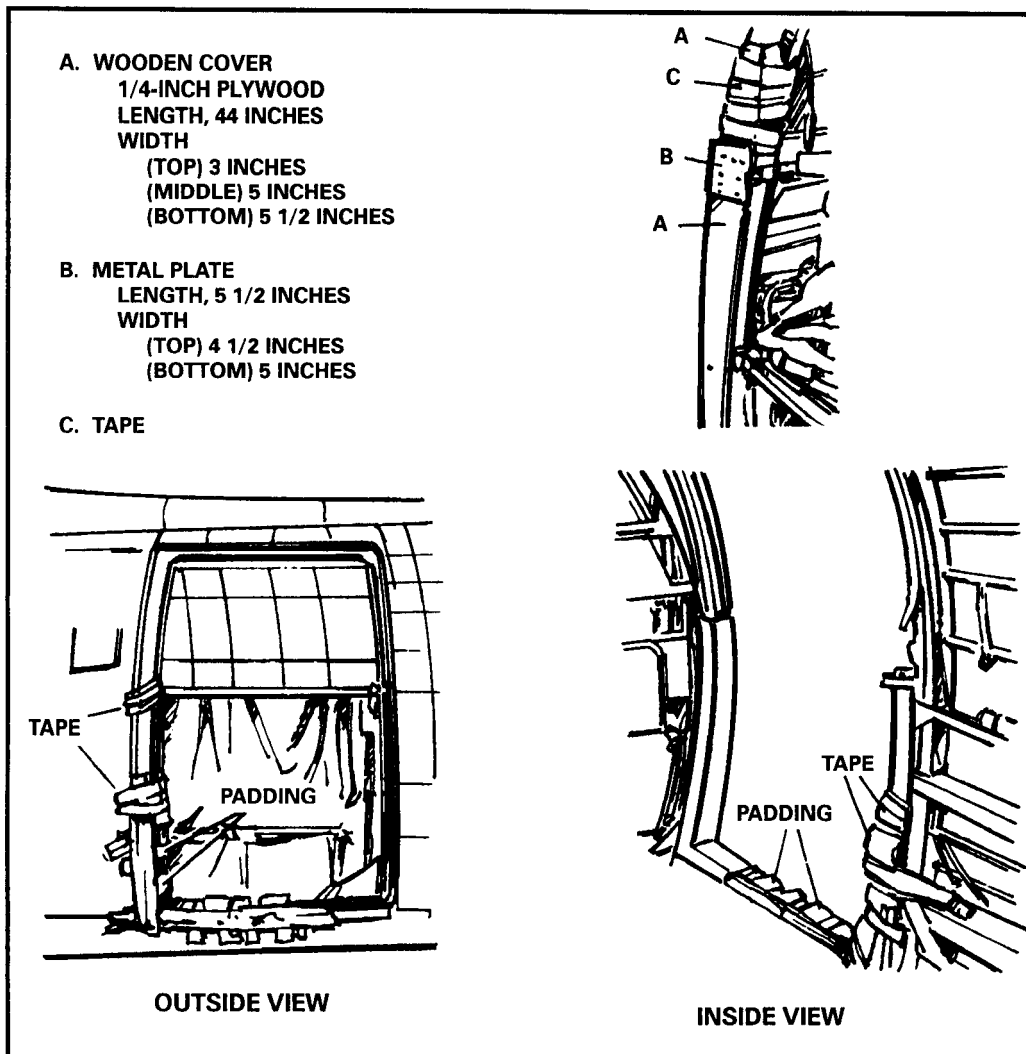

Figure 18-7. CH-46 door frame preparation.
(2) One 1/4-inch or 3/8-inch steel cable, 260 inches in length, is installed with four clamps, lock washers, and bolts.
(3) Two 2-by 4-by 6-inch wooden blocks are placed between the anchor line cable and floor, and a clevis assembly (G-13, for use as a static line snap hook stop) is attached to the tie-down ring at station number 190 (door jump).
(4) Excess slack is removed from the anchor line cable.
(5) The personnel door is removed, and a plywood cover is installed over the aft side of the door frame and secured with a metal plate. The bottom and aft edges of the door frame are padded and taped (Figure 18-7).
(6) When jumping from the ramp, the jumpmaster installs the anchor line cable as described previously, except that it is on the port side and the G-13 clevis (for the static line snap hook stop) is on the tie-down ring at station number 390.
(7) Parachutes must be equipped with a 5-foot static line extension (MN 1670-00-368-4225).